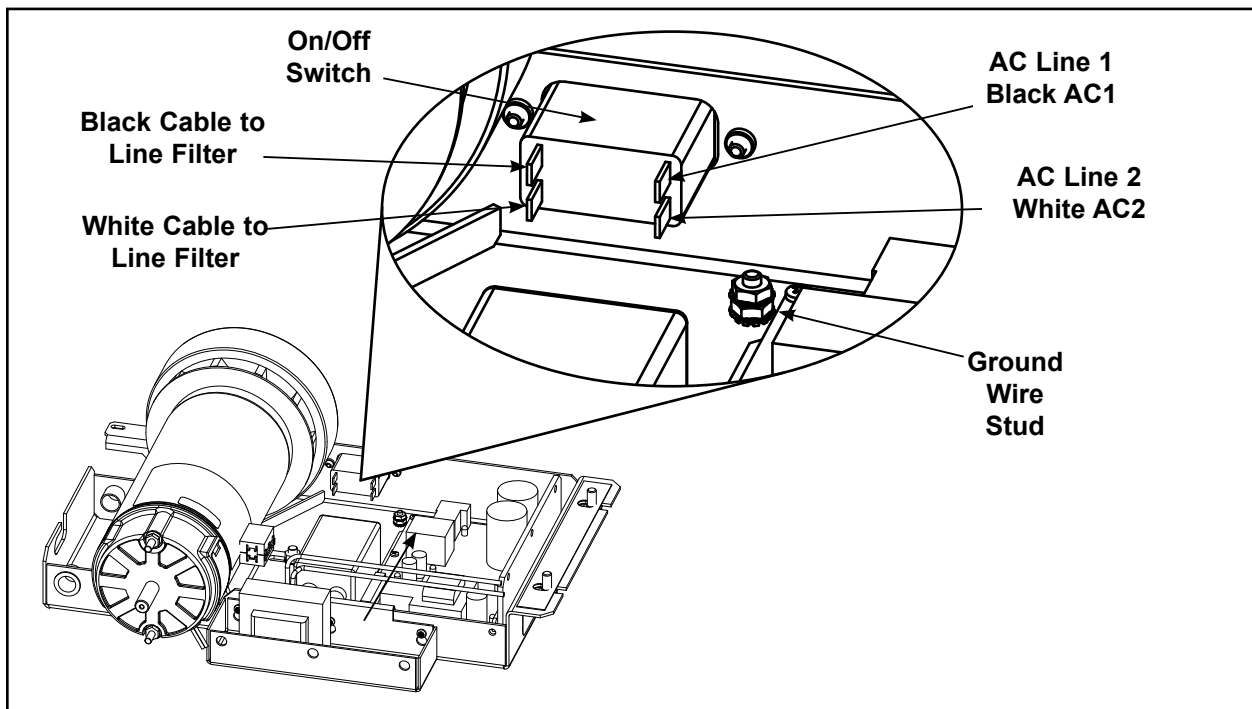

Figure 21b (445T)
- A. Turn the main power switch on the right side to the off (O) position.
- A. Using a 3/8" nut driver or socket wrench, remove the nut securing the ground wire to the motor base plate. See Figure 21b.
- B. Connect the white fast-on connector from the power cord to the on/off switch as shown in Figure 21b.
- C. Connect the black fast-on connector from the power cord to the on/off switch as shown in Figure 21b
- D. Connect the white fast-on connector from the power cord to the on/off switch as shown in Figure 21b.